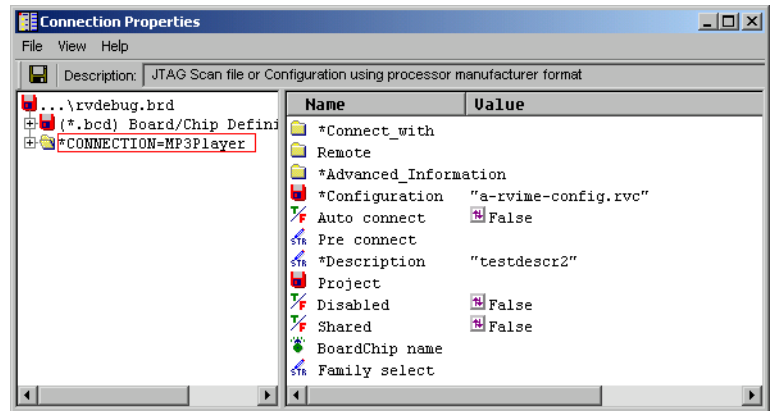

Figure 13-17 Displaying the new MP3Player connection properties
17. Right-click on the new MP3Player connection and select **Connection Properties...** from the context menu. This displays the Connection Properties window showing the contents of the new connection, shown in Figure 13-17.